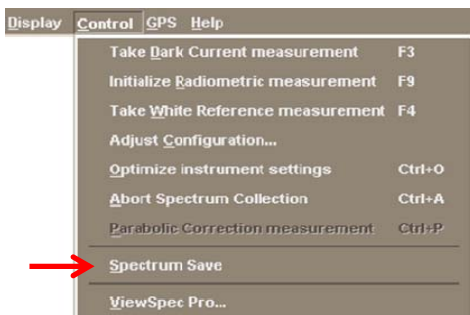

Figure 3-26: Select Spectrum Save
- Step 1 Under the Control pull-down menu, select “Spectrum Save” (Figure 3-26) or use keyboard command [Alt+S].